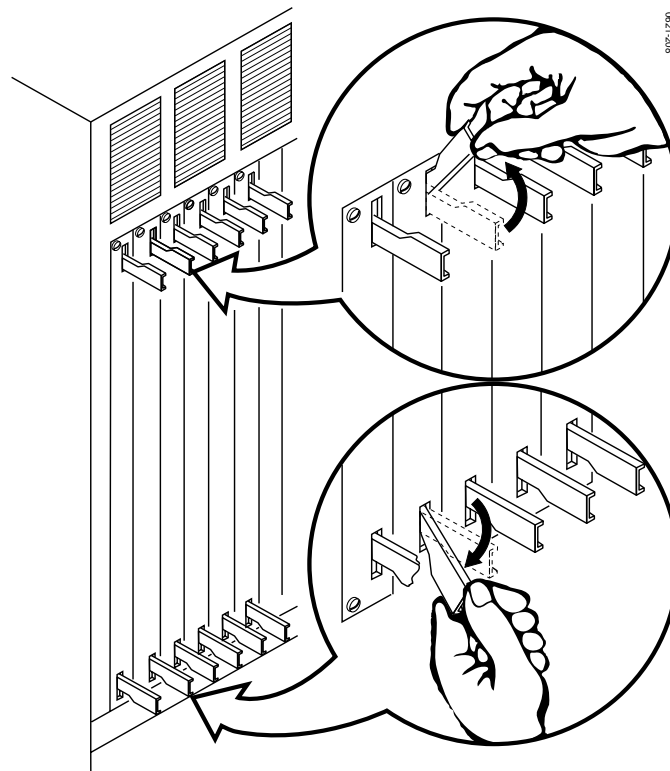

Figure 4-2. C and D Bay Module Removal
2. Unlock the top and bottom ejectors as illustrated in Figure 4-2 by pushing them away from each other. Pull the circuit module straight out and away from the frame.